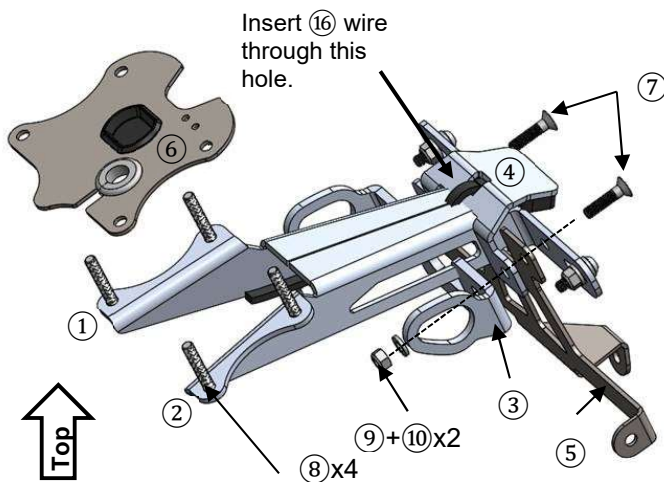

Fig. 3
2. Remove the latch bracket to access the nuts that hold the stock fender to the tail section. (Fig. 3)
4. Insert the wires into the tail section. (Fig. 3)
6. In the tail section, attach the 15 Wire harness to the 16 License Light Assembly bullet connectors and the other end to the stock wire harness. (Fig. 3)
7. Connect the blinker wires to the stock wiring harness. (Fig. 3)
9. Reinstall the latch bracket with the stock bolts and torque to 7Nm (0.7 m-kg or 5.2 lb-ft) (fig. 3)